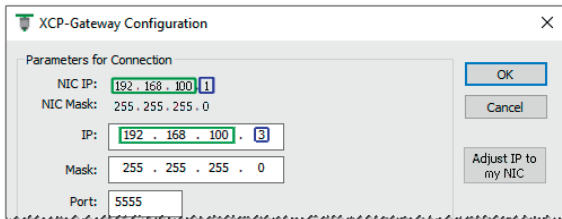

Fig. 5-24: **Adjust IP to my NIC** command
- ▶ If you use PC and network adapter card for both configuration and measurements, the IP addresses of the network adapter and the HV BM 3.1 OBC have to be in the same address range (Fig. 5-24, green markers), but they must not be identical (Fig. 5-24, blue markers). If necessary, the IP address can be adjusted clicking the button **Adjust IP to my NIC**. The IP address is automatically adjusted to the IP address of the network adapter. A manual modification of the **IP address** entry is not required.